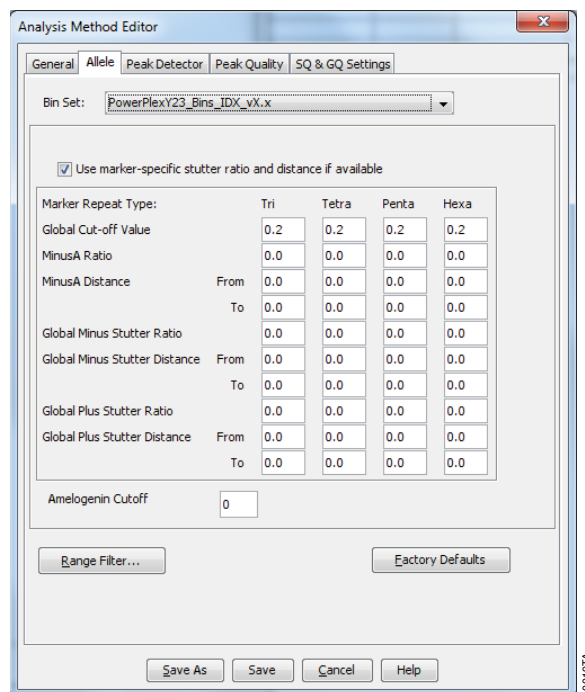

Figure 17. The GeneMapper® ID-X 'Allele' tab with settings for using a 20% peak filter.
6. Select the 'Allele' tab (Figure 17).
8. Ensure that the "Use marker-specific stutter ratio and distance if available" box is checked. Doing this will assign locus-specific stutter files and distances from the imported stutter file. Ensure that the appropriate global filter is applied to this analysis method. For example, for a 20% filter, enter "0.20" for the Global Cut-off Value for Tri, Tetra and Penta repeats (Figure 17).